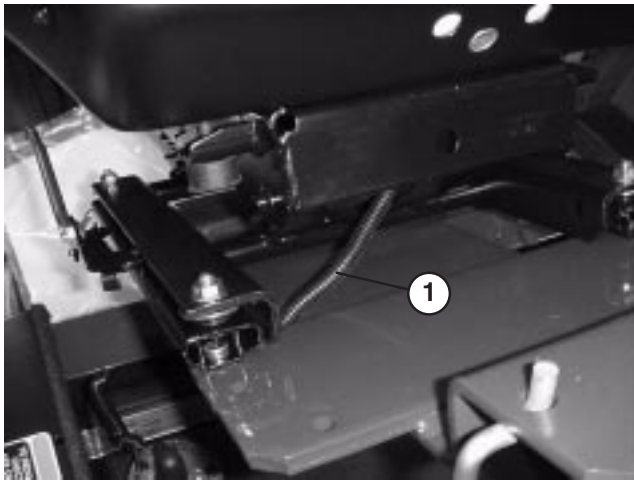

Figure 9
7. Route seat switch harness through holes in seat support and seat suspension (Fig. 9). Plug wire harness connector into seat switch connector on bottom of seat.